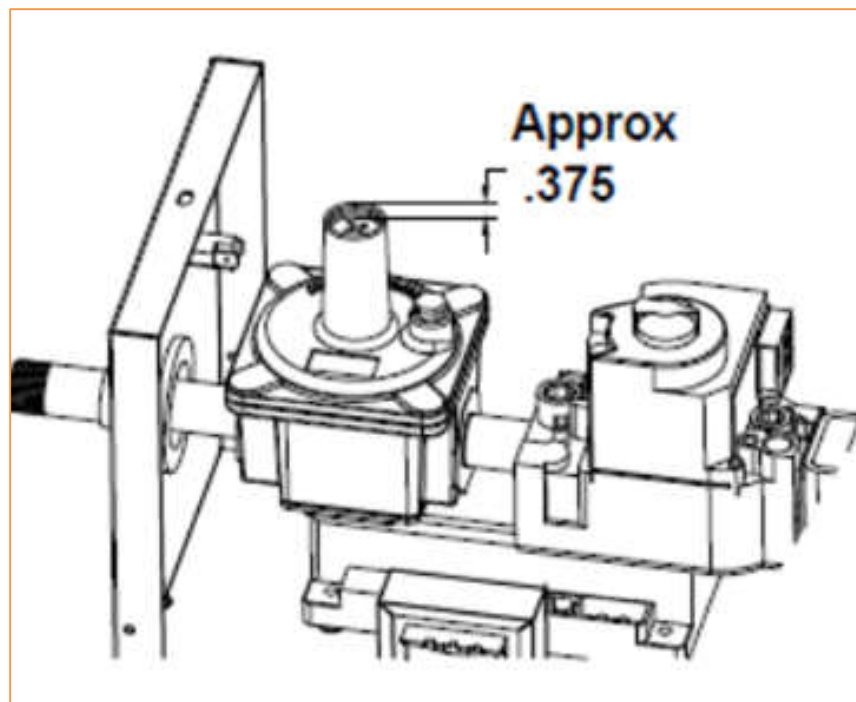

Figure 51: Adjustment Screw Starting Position
2. The zero regulators come factory set as shown in Figure 51. Make sure the one you are working on has not been tampered or set incorrectly.